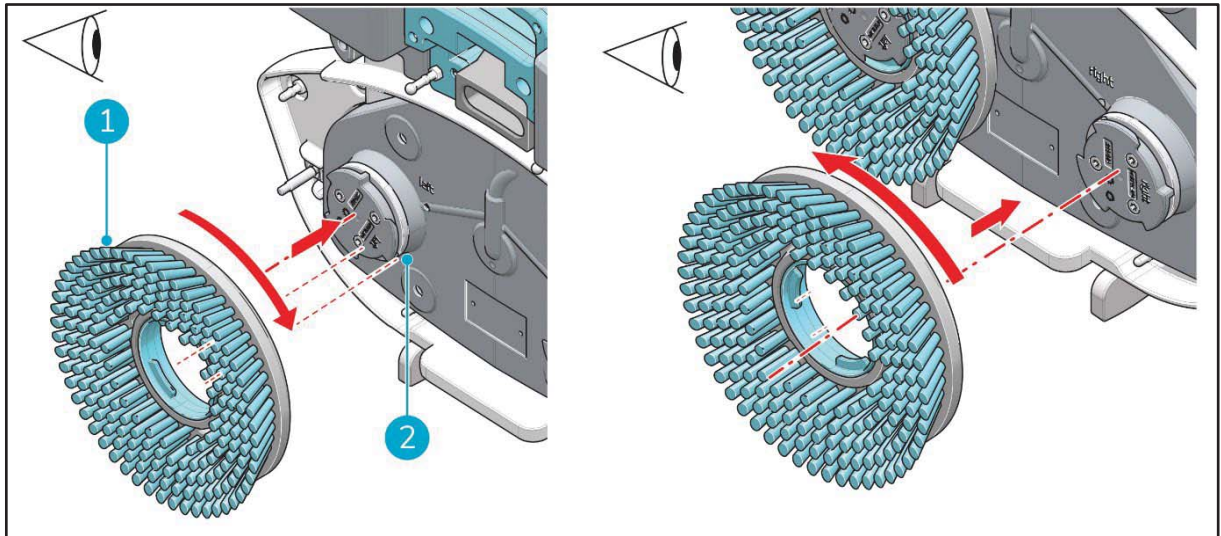

Figure 9
3. Align the left brush (Figure 9, pos 1) with the left motor disk (Figure 9, pos 2). Align the latches and cut-outs in the brush and motor disk.